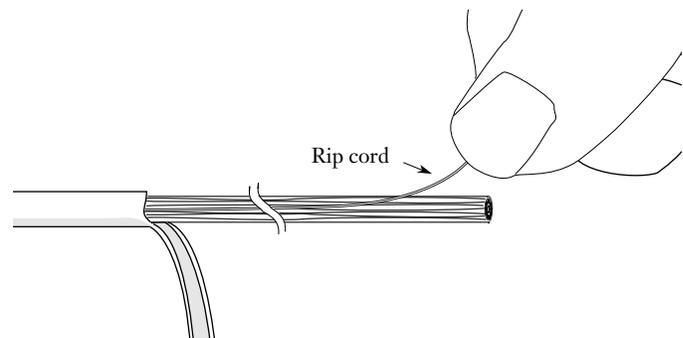

Figure 5
4.4 Peel back the 15 cm (6 in.) section of outer jacket to expose the fibers, aramid yarn, and rip cord. Separate the rip cord from the yarn (Figure 5).